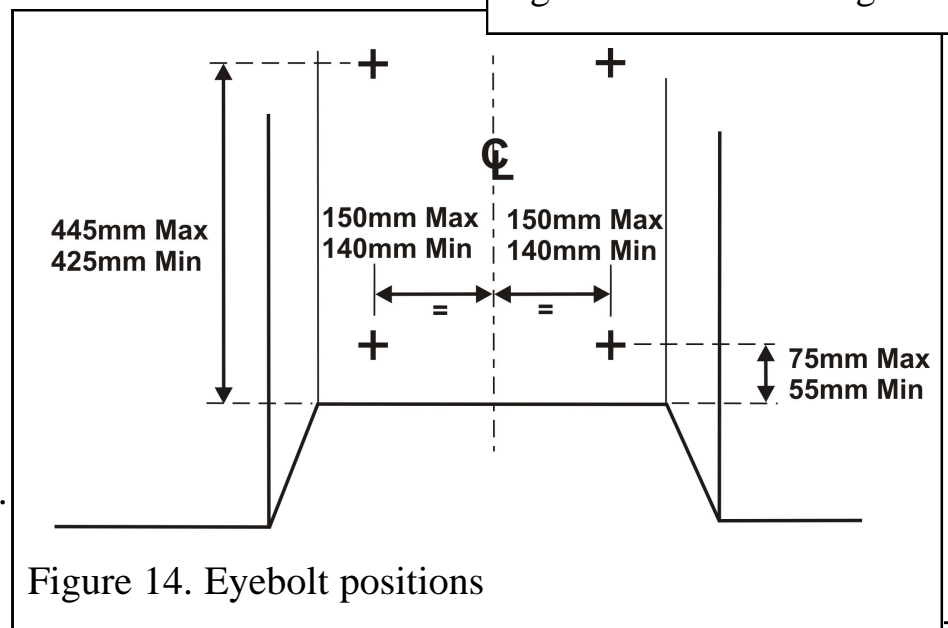

Figure 14. Eyebolt positions
2. Drill four holes in the rear wall of the fireplace for the fibre plugs. The holes should be drilled within the range of positions shown in figure 14 using a no.12 masonry drill. The holes should be equidistant each side of the centre line of the fireplace to ensure that the appliance finishes centrally in the opening when tension is applied to the cables.